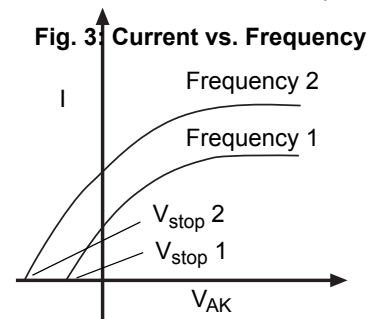

Fig. 3: Current vs. Frequency
- Light of different frequencies (colors) have different stopping potentials. See Figure 3